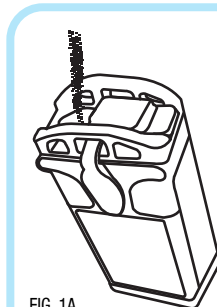

FIG. 1A
- A.** Remove one salt plug from the top of the H2g0® Purifier and fill the chamber with salt for a reserve supply. (FIG. 1A) Replace the salt plug.